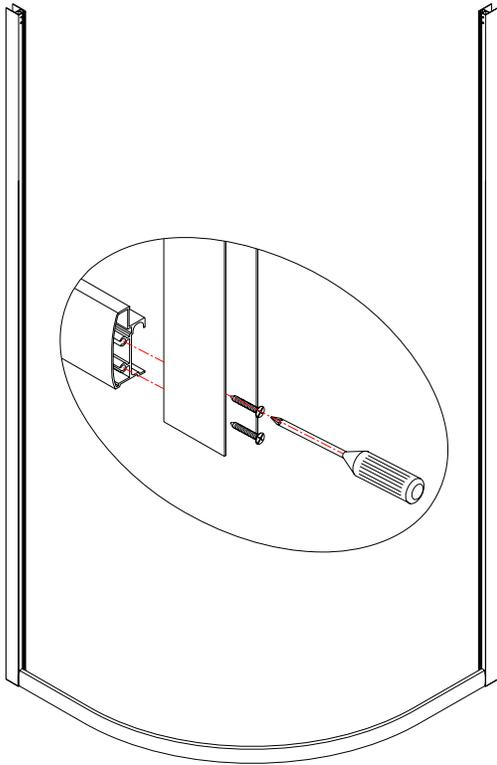

Fig 1
1. Assemble **Glass profile (02)** with **Guide rail (03)** using **Screws ST4.2x25 (11)**. Note that the top guide rail is different from the bottom guide rail—plastic stopper is in a different location. See fig. 1 for details.